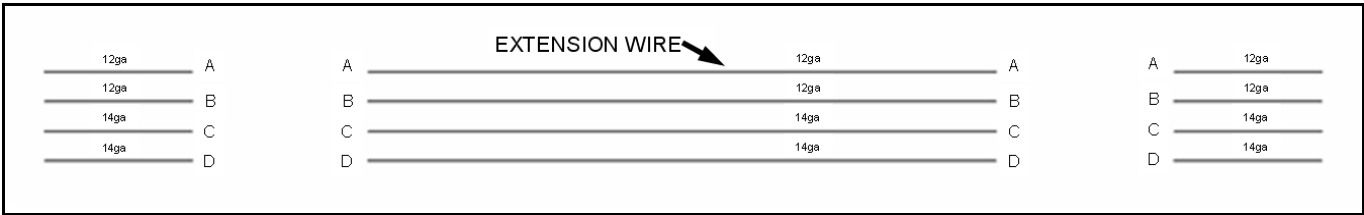

Figure 3.41
6. Add 6-1/2 feet wire to the wire connecting the motor to the key (Figure 3.41). Mark each wire A,B,C,D in two spots, cut, and connect appropriate gauge of extension wire with butt connectors. For example, connect A to A with 6-1/2 feet of extension wire.